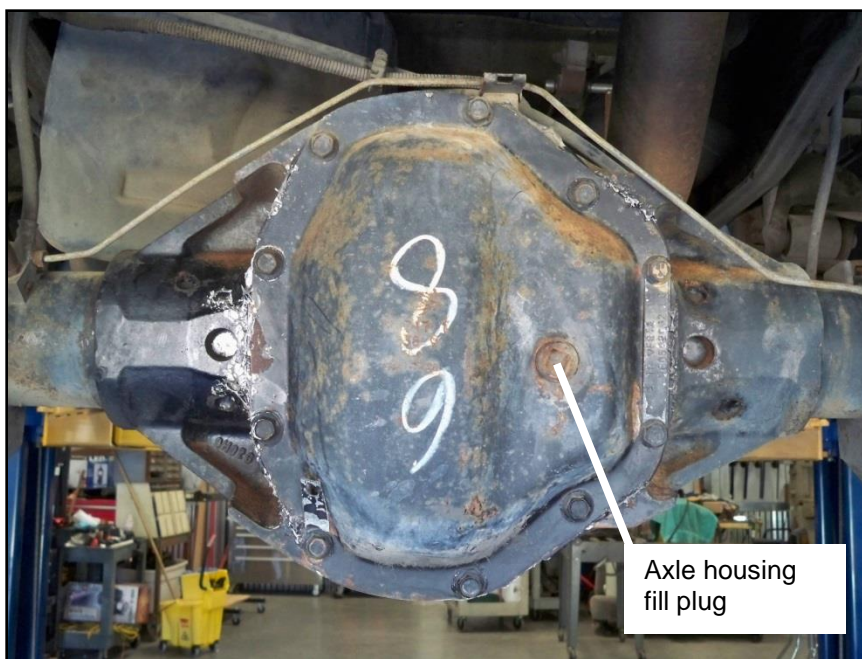

Figure 1
STEP 3. Loosen the axle housing fill plug with a 1/2" square ratchet (See Figure 1).